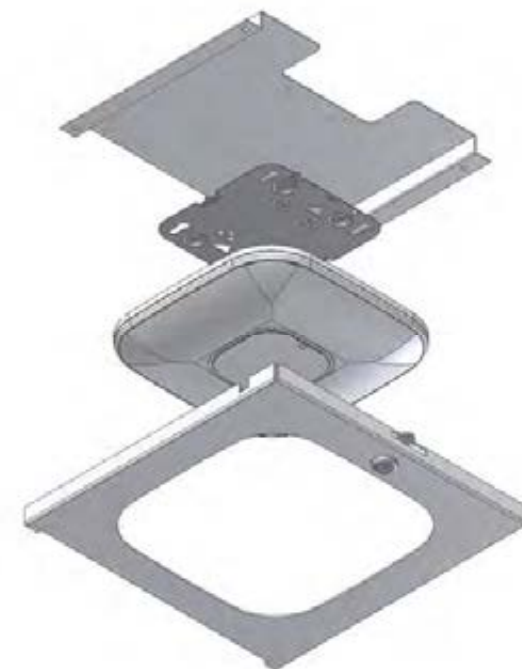

Figure 5 – Exploded door view.
Step 4 – Turn the enclosure/ceiling tile assembly over, unlock and open the door. Attach **Cisco AIR-AP-BRACKET-1** for the **1140/3500 series APs** or **Cisco AIR-AP-BRACKET-2** for the **2600/3600 series APs** to the door bracket with (4) #8-32 nuts. Next, slide the access point onto the Cisco bracket. Secure the door bracket to the door using the (4) #10-32 nuts provided (ref. *Figure 5*). Make sure the door is closed and locked before placing in the ceiling.